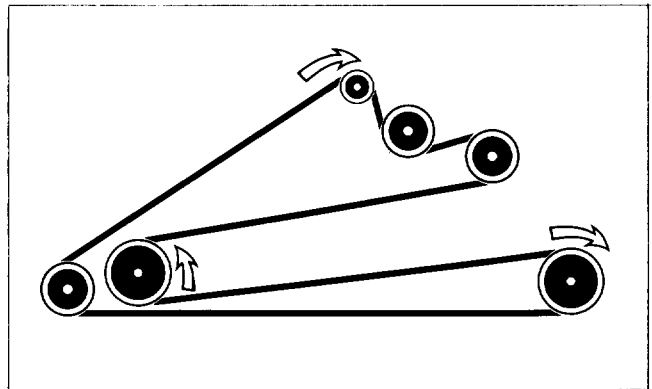

Figure 22
4. Install new belt around spindle pulleys, gearbox pulley, and idler pulley (Fig. 22).